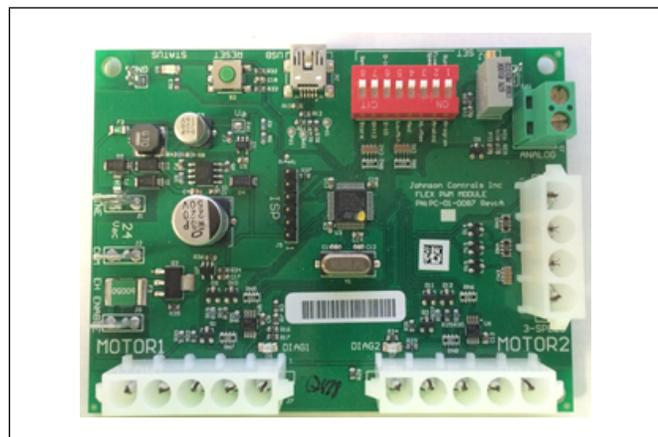

Figure 34 – G3 PWM Board
- a. Locate the G3 PWM board within the control enclosure (See Figure 34).